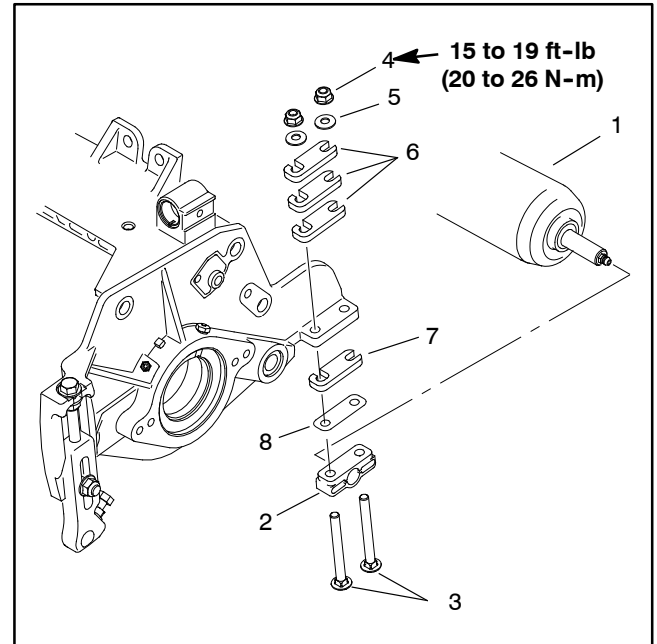

Figure 47
Removal (Fig. 47)
Installation (Fig. 47)
2. If both rear roller brackets were removed from cutting unit side plate, position brackets and roller shims to one of the side plates, and install two (2) carriage screws and flange nuts to retain bracket in position. Install slotted roller shims as shown (Fig. 47). Do not fully tighten flange nuts.
4. Slide second rear roller bracket onto the other end of roller shaft. Secure second roller bracket and shims to cutting unit side plate with two (2) carriage screws and flange nuts. Install slotted roller shims as shown (Fig. 47). Do not fully tighten flange nuts.